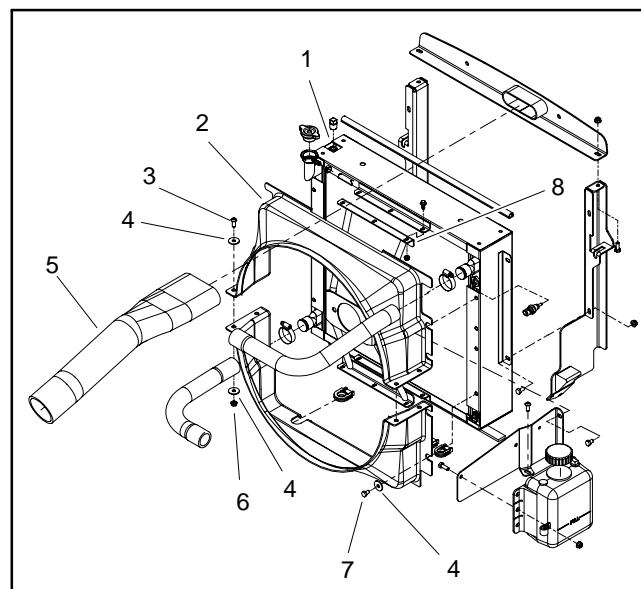

Figure 80
4. Remove air cleaner hose and upper radiator shroud to allow easier access to hydraulic fan motor (Fig. 80).
5. Remove four (4) cap screws and washers used to secure fan (item 13) to fan hub. Remove fan.
5. Carefully position fan motor and bracket assembly to radiator and secure with six (6) cap screws and flange nuts.
7. Apply Loctite #242 (or equivalent) to threads of cap screws (item 11) used to secure fan to fan hub. Position fan to fan hub and secure with four (4) cap screws and washers. Torque screws from **12 to 14 ft-lb (17 to 18 N-m)**.
8. Install upper radiator shroud and air cleaner hose (Fig. 80). Make sure that clearance between shroud and cooling fan is at least 0.180" (4.6 mm) at all points.